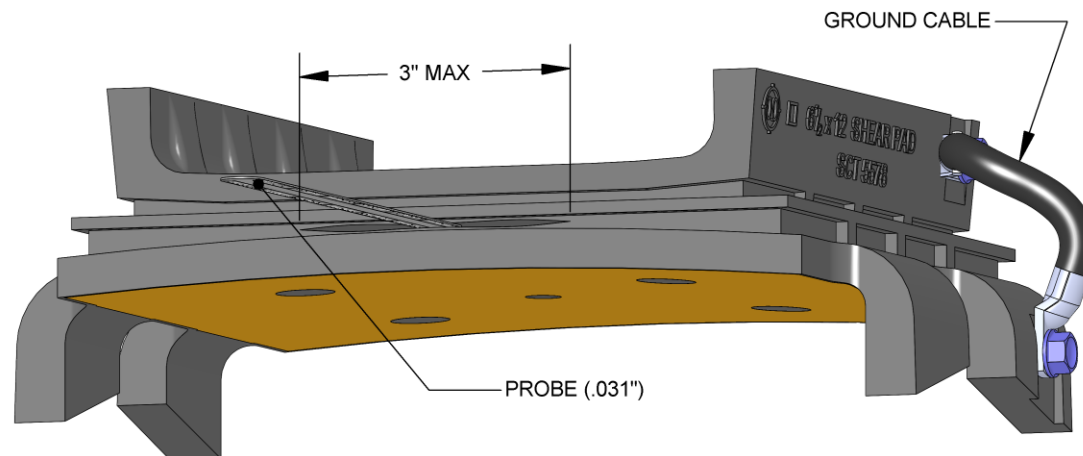

Figure 1
2. Deep cracks in the elastomer material. Each break, not the sum of all breaks, should not exceed 3/8” in depth and 3” in length or an area of 1 ¼ sq. in. (See Figure 1). Under no conditions should the crack greater than 1” deep be allowed.